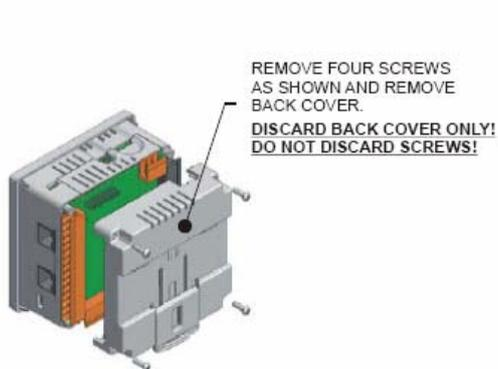

Figure 1 - Removing Back Cover of the XLE
2. Remove the four screws on the back of the XLE unit and remove the back cover. The back cover will be replaced with the extended back cover that ships with the communication add-on. Screws are re-used (Figure 1).